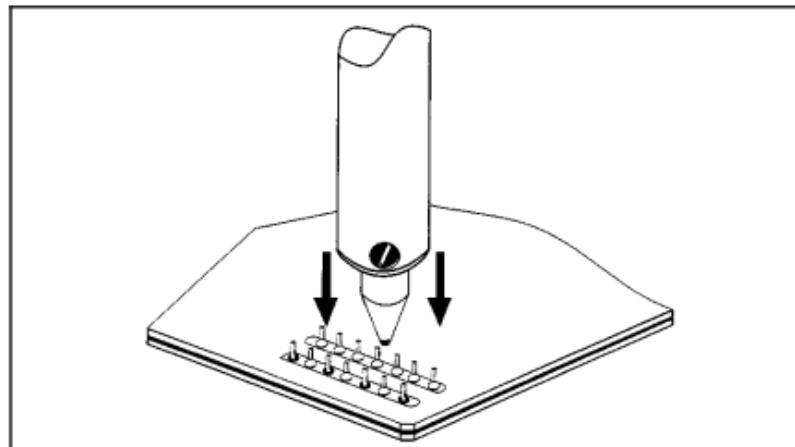

Figure 2 Position Tip
9. Tin tip with solder. (See Figure 2.)